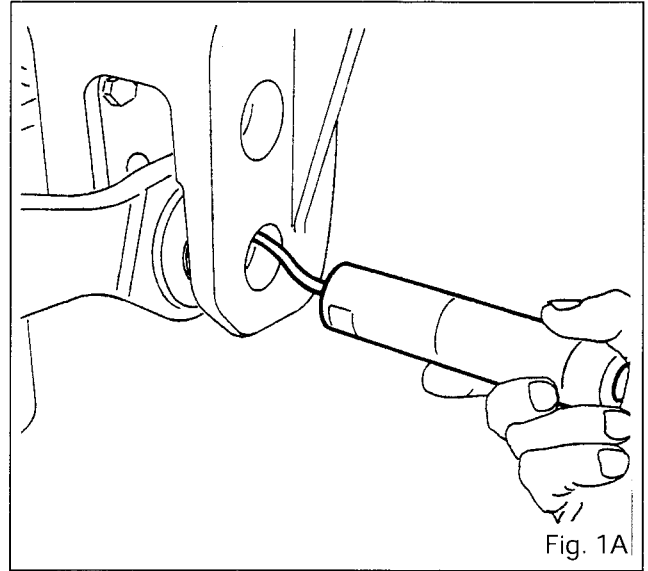

Fig. 1A
7. Disconnect the draft control sensor harness. On tractors fitted with an **automatic hitch**, the sensor is removed **towards the outer side of the tractor** (Fig. 1A).